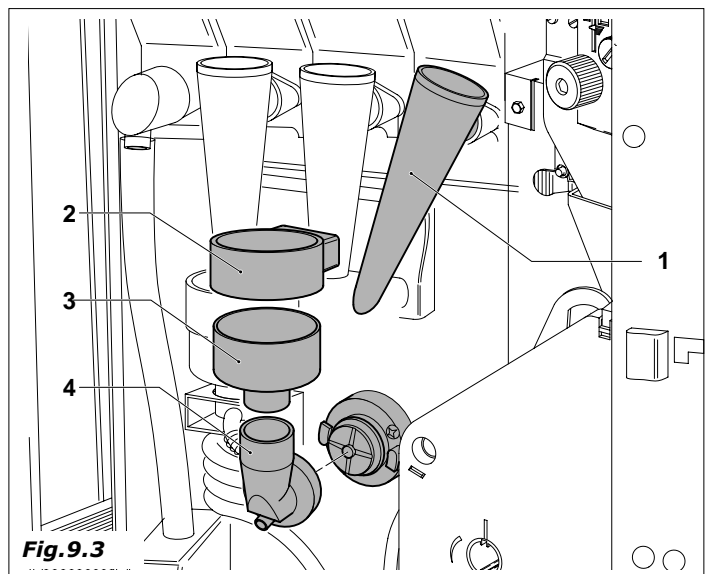

Fig. 9.3
- funnels and powder chutes (Fig. 9.3-pos.1)
- water funnel (2), mixing bowls (3) whipper assembly (4)